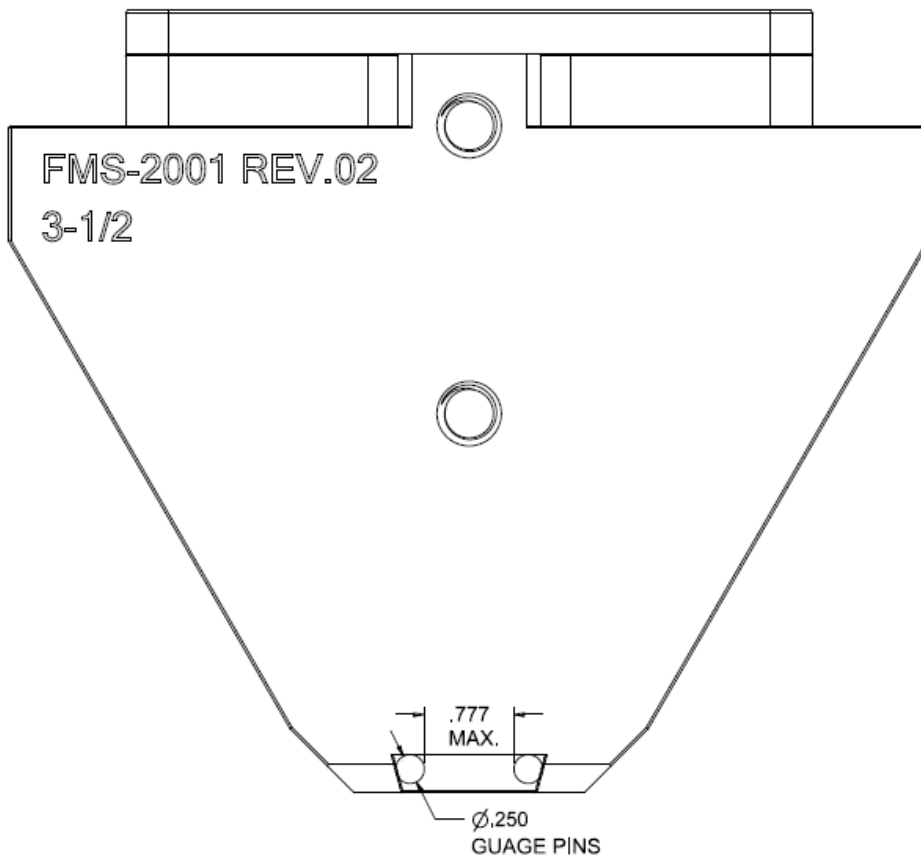

Fig. 43
- Remove the inserts, load carrier plates, and check the insert slots for wear or damage (see fig 43).